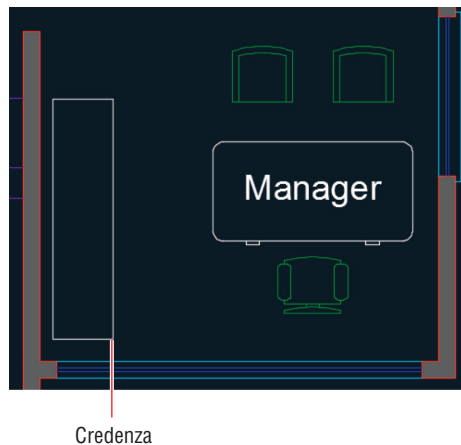

FIGURE 6.5 Drawing furniture on layer 0
2. Select the Home tab on the ribbon. Click the Rectangle tool on the Draw panel and click a point a few inches (no need to measure) from the lower-left corner of the room. Type `@18,72` (or `@45,180` for metric) and press Enter to create a credenza in the manager's office (see Figure 6.5).